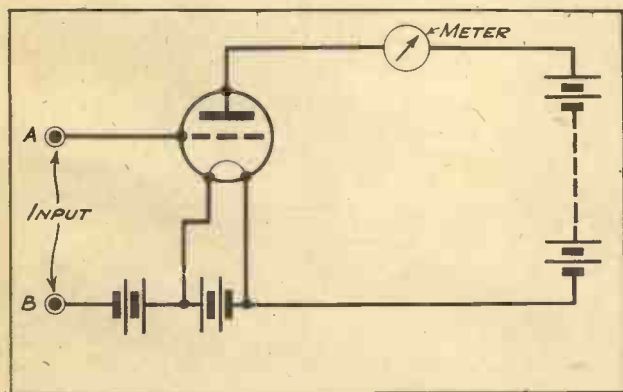
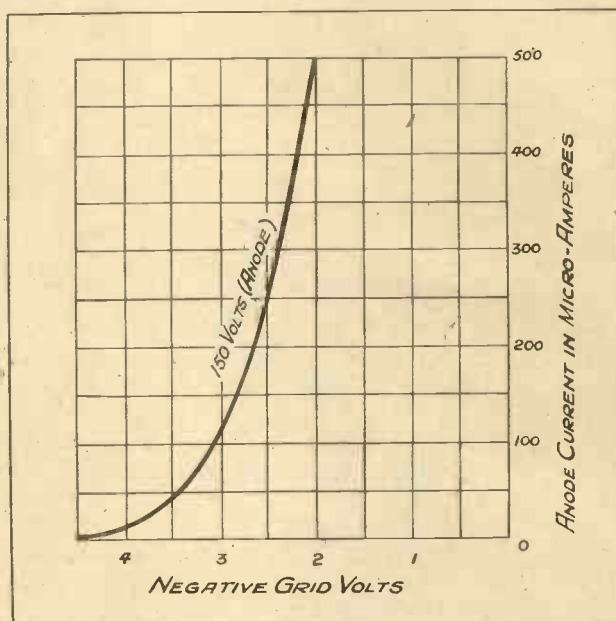
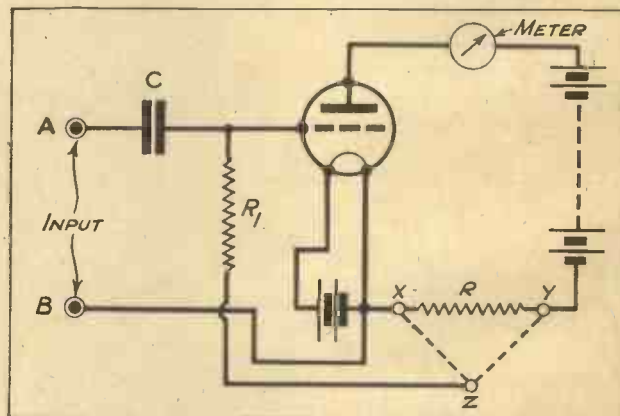
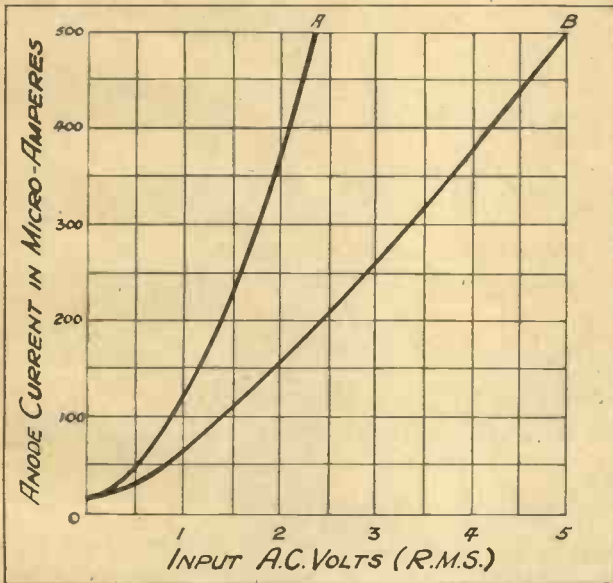

Fig. 1.—In its simplest form the valve voltmeter is connected as shown in this diagram.
Fig. 2.—The characteristic (grid volts/plate current) curve of a valve used in the instrument described in this article.
Fig. 4.—A more practical way for joining up a valve voltmeter. Automatic grid bias is secured.
Fig. 5.—Calibration curves for an actual instrument (see text for details).
In its simplest form the instrument consists of a valve, a suitable meter for registering the valve plate current, and the necessary batteries, connected up as in Fig. 1. In Fig. 2 is a grid volt/plate current
Studying the curve, it will be observed that no plate current will flow if the valve is biased to -4.5 volts. If an A.C. voltage is applied across the input AB (Fig. 1) through a transformer, or in such a way that the grid remains biased to -4.5 volts, while the peak value of this A.C. voltage is 1.5 volts, on the positive cycle, then the plate current will rise from zero to a maximum of 120 microamperes,
A.C. voltage of sine wave form is applied to the grid of a valve biased to -4.5 volts, the peak value of the A.C. voltage being 2 volts, the valve characteristic being similar to that of Fig. 2. It will be noticed that the wave form has also been changed. In practice it is generally advantageous to adjust either the grid bias or high-tension to such a value that even when no signal is applied a small plate current is flowing. The reason for this can be seen clearly by referring again to Fig. 2.
If an A.C. voltage of 0.5 volt peak is applied, the steady bias being -4.5 volts, then at the peak value the anode current will rise only to 10 microamperes. Had the bias, however, been -4 volts, the same A.C. voltage would have made it rise to nearly 50, a difference of 40, which would require a much less sensitive meter in the plate circuit for a given voltage to be measured. The circuit in Fig. 1, while having the advantage of applying very little capacitive load, and therefore being particularly useful for radio frequencies, has the disadvantage that it cannot be used to measure voltage across a condenser, or, what is of frequent occurrence, any circuit which has a D.C. component, which would immediately alter the steady bias voltage.
To make the instrument more universal, a grid condenser and leak is added together with a resistance, as in Fig. 4. If the resistance R is short-circuited the operation of the circuit is similar to that of Fig. 1, except that the grid of the valve is insulated from any
The calibration curves of a practical instrument are given in Fig. 5. In curve A R.M.S. volts have been plotted against the anode current indicated on a meter giving a maximum deflection at 500 microamperes. To obtain this curve the connection ZX was made (see Fig. 4), while for curve B the lead was changed to the position ZY . The H.T. and grid bias were so arranged that a steady current of 20 microamperes was flowing at zero input voltage.
The circuit given in Fig. 4 has the disadvantage of taking more power to operate it, this power varying over different frequencies. At high frequencies the grid leak and condenser wiring, plus the valve capacities, may seriously shunt R_1 unless C is of a much smaller order than these combined capacities. At low frequencies the valve and wire capacities will have a negligible effect, while the reactance of C may be of considerable order, so in practice the values of the grid condenser and leak must be chosen with the frequency error in mind.
In addition the last three diagrams were transposed. The diagram Fig. 5 should appear over caption of Fig. 4, the diagram Fig. 6 over caption Fig. 5, and the diagram Fig. 4 over caption Fig. 6.